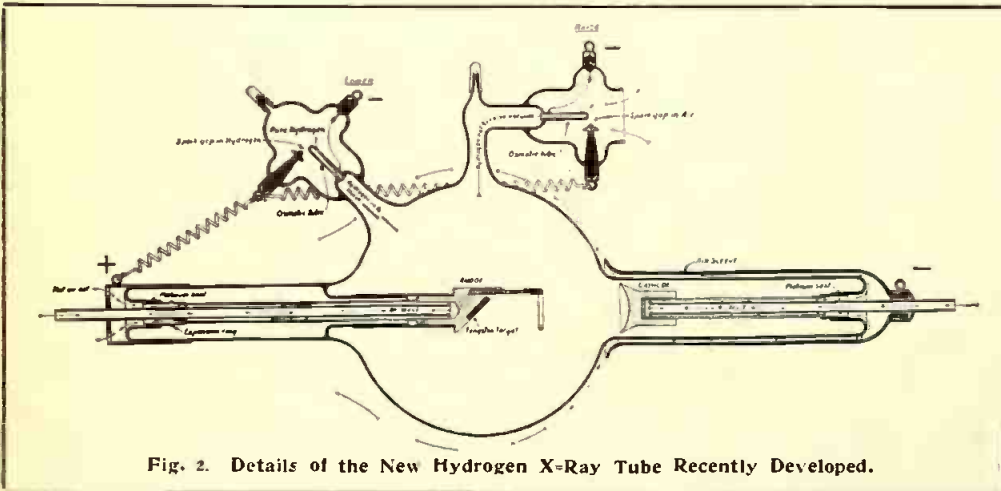

Fig. 2. Details of the New Hydrogen X-Ray Tube Recently Developed.
2. These solenoids have two sets of windings on them, and wound in opposite directions. The two bobbins are made of hard rubber and details of dimensions are shown in Fig. 7. After the bobbins are made according to dimensions, wind in one direction and one-half of the spool, with 200 feet of No. 24 B. & S. copper magnet wire, and then wind the other half and in the opposite direction with the same amount and size of wire. Both coils should be wound exactly the same. Now construct the movable cores, which consist of two pieces of soft iron $1\frac{1}{4} \times \frac{3}{8}$ in diameter. On one end of these cores a No. 10-32 thread is made and a small brass rod H with No. 10-32 thread on one end is inserted, as shown in Fig. 2. Two small springs are then placed behind each end of the cores of the solenoids as shown.
The writing board E, Fig. 2, consists of a thin brass plate $8 \times 4 \times \frac{1}{4}$, placed between four brass angle pieces F, suitably grooved, so it can be moved easily by the electro-magnet arm A 6, Fig. 2. This arm A 6 is the core of the electro-magnet B and is made from soft iron $2\frac{1}{2} \times \frac{3}{8}$. A small hole is made in one end in order to attach it to the writing board E.